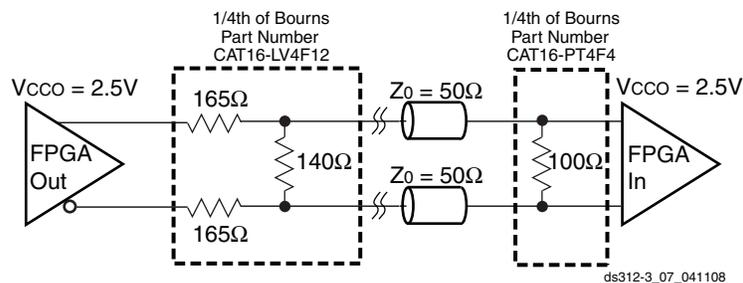

Figure 71: External Termination Resistors for BLVDS Transmitter and BLVDS Receiver
- Output voltage measurements for all differential standards are made with a termination resistor (R_T) of 100Ω across the N and P pins of the differential signal pair. The exception is for BLVDS, shown in Figure 71.